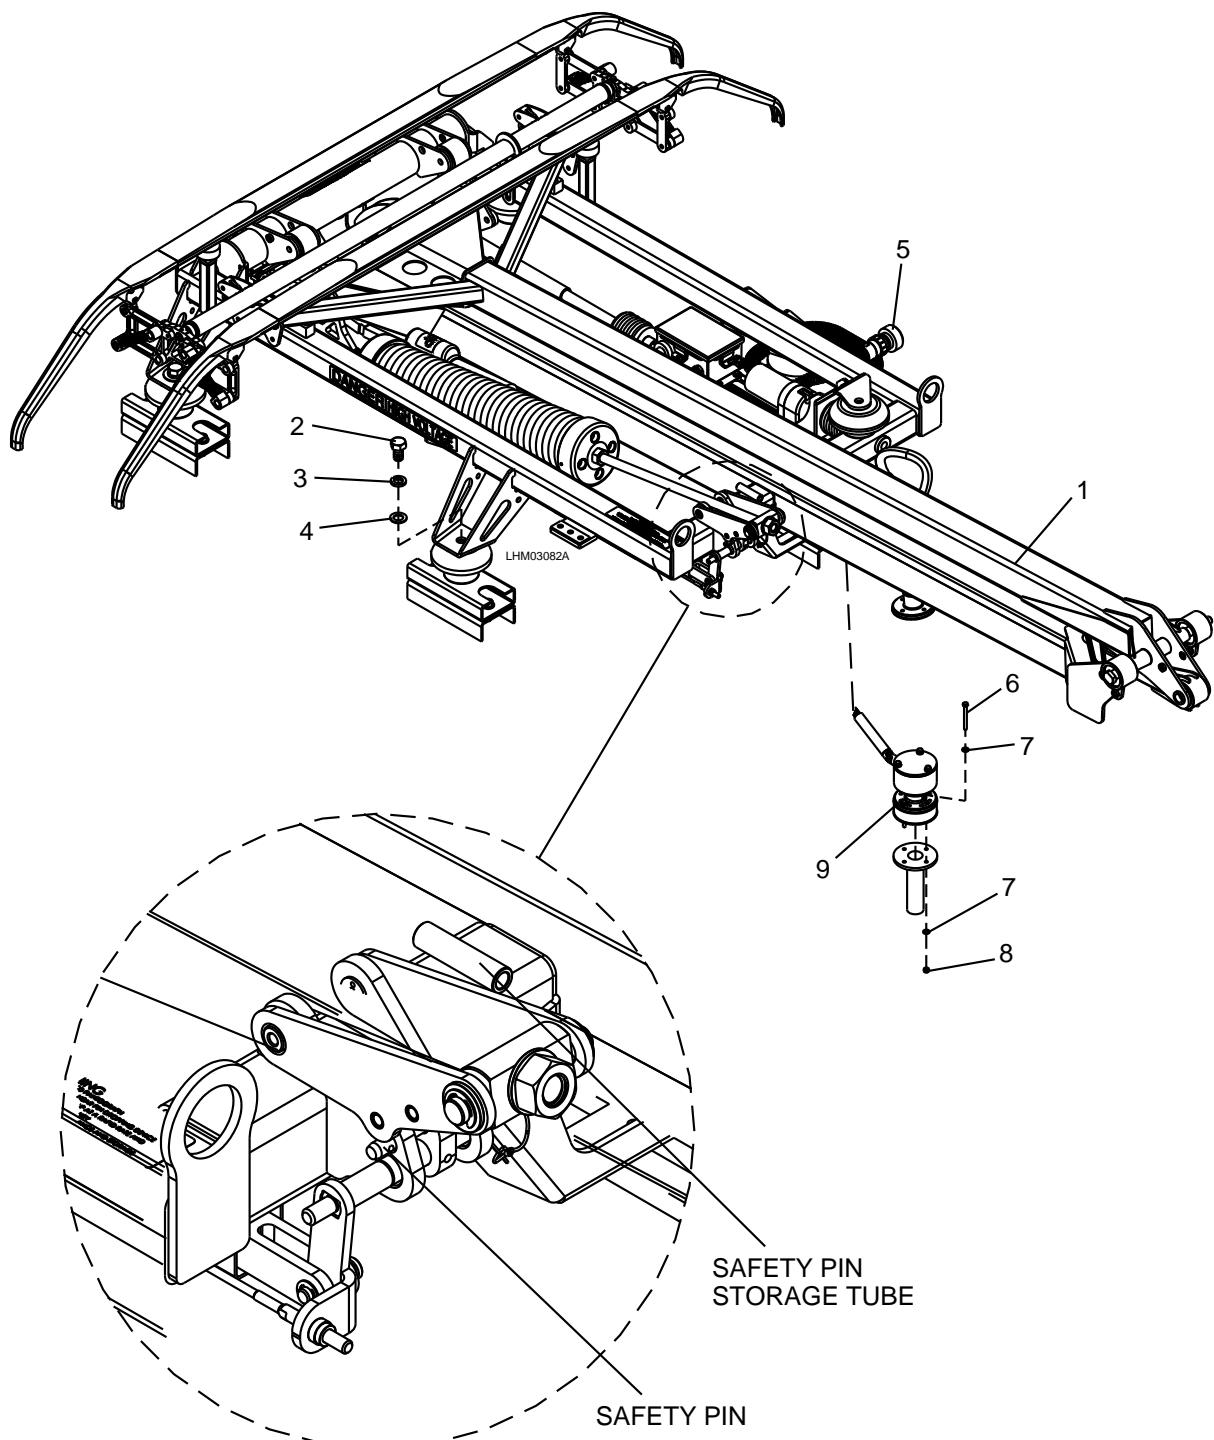

Figure 7-120: Pantograph
1. Lower the pantograph (1).
2. Install the rear safety pin. See Figure 7-120.
3. Disconnect the electrical connector (5) from the Pantograph (1).
4. Remove the four M6 x 60 bolts (6), M6 plain washers (7), and nuts (8) from the gearbox assembly (9).
5. Remove the four 3/4 x 1-1/4 bolts (2), 3/4 lock washers (3), and 3/4 plain washers (4).
6. Carefully remove the Pantograph (1). Refer to Section 0800, Pantograph of the Heavy Repair Maintenance Manual for additional information.